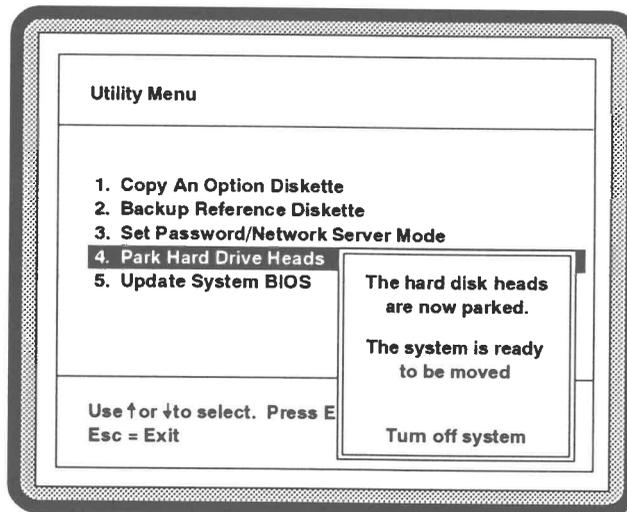

Figure 4-15 Parking Hard Disk Drive Heads
2. From the **Utility Menu**, select **Park Hard Drive Heads** and press Enter (see Figure 4-15).
NOTE: Figure 4-15 is a composite of the windows you will see while carrying out this procedure. It is intended to show the program sequence.